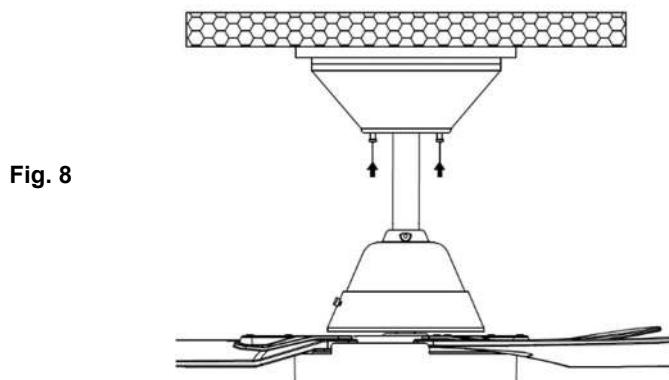

Fig. 8
- Cover the mounting bracket with the canopy. Ensure all electrical wiring is tucked inside the canopy and that the wires are not damaged during this step. Secure the canopy to the mounting bracket using the screws provided. (Fig. 8)